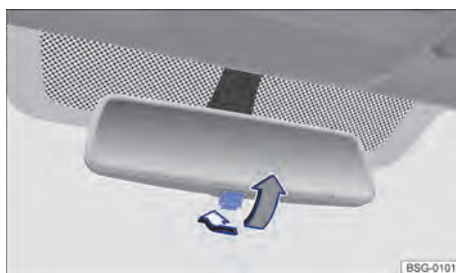

Fig. 96 On the windscreen: manual anti-dazzle interior mirror.
- Pull the lever back to select the anti-dazzle function → Fig. 96.